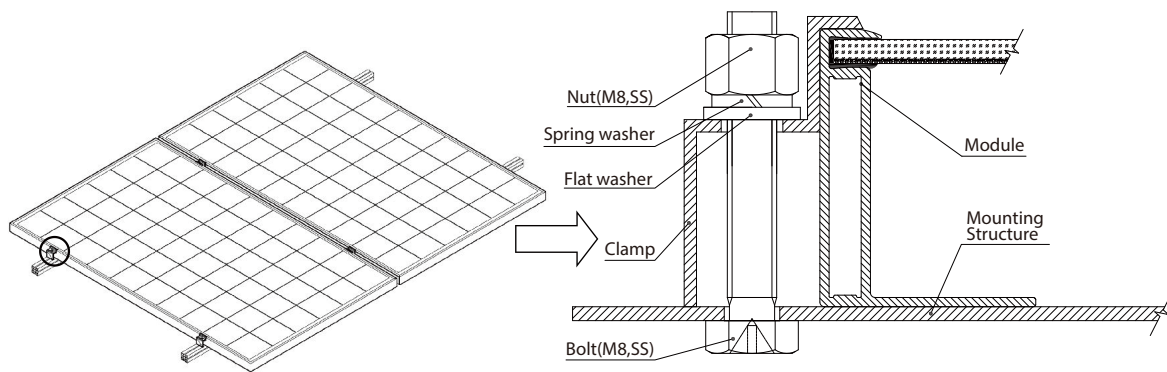

Figure 1
- **Clamping system:** Use suitable clamps to fix the Module on the support frame, as shown in Figure 1.